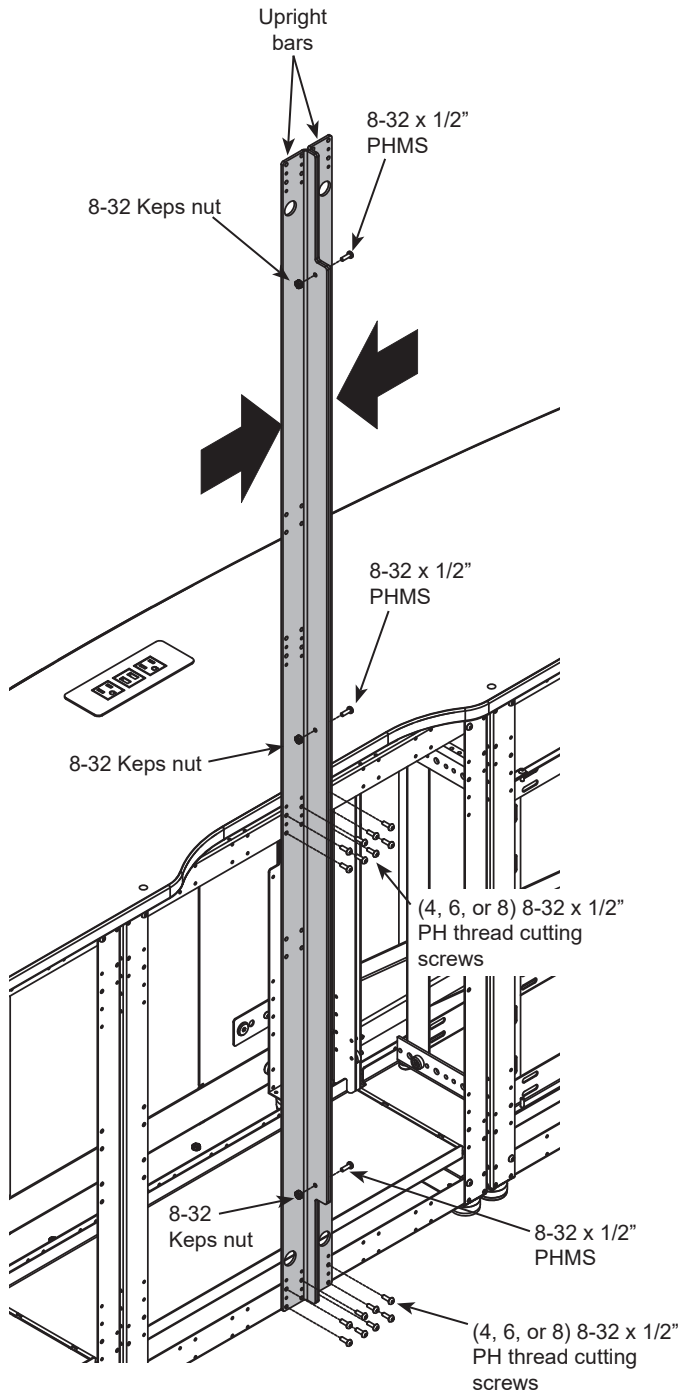

Figure 1.1
1. Attach the (2) upright bars together with (3) 8-32 x 1/2" PHM screws and (3) 8-32 Keps nuts. **Figure 1.1.**